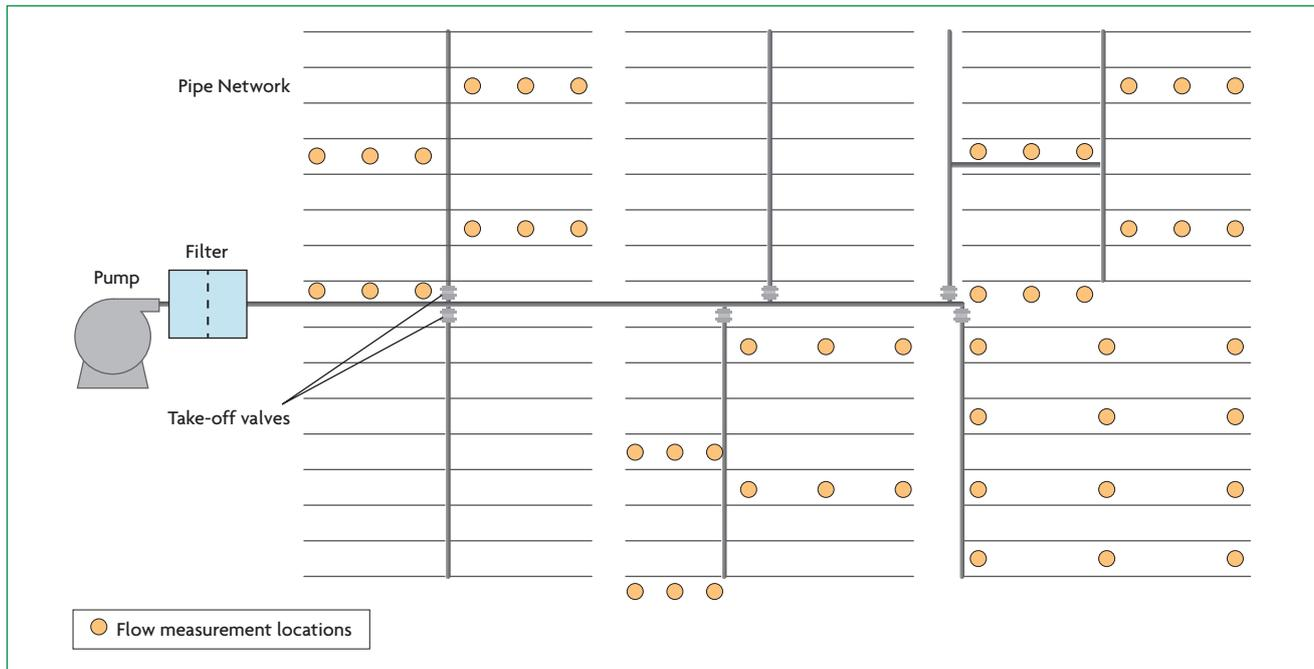

Figure 2.1. Recommended locations for emitter or sprinkler flow measurements for micro-irrigation calibration.
Calibration is based on measurements collected at specified locations within an irrigation station (Figure 2.1).
5. Collect the output from one emitter at the beginning, middle and end of the lateral nearest to the station inlet (Figure 2.1)